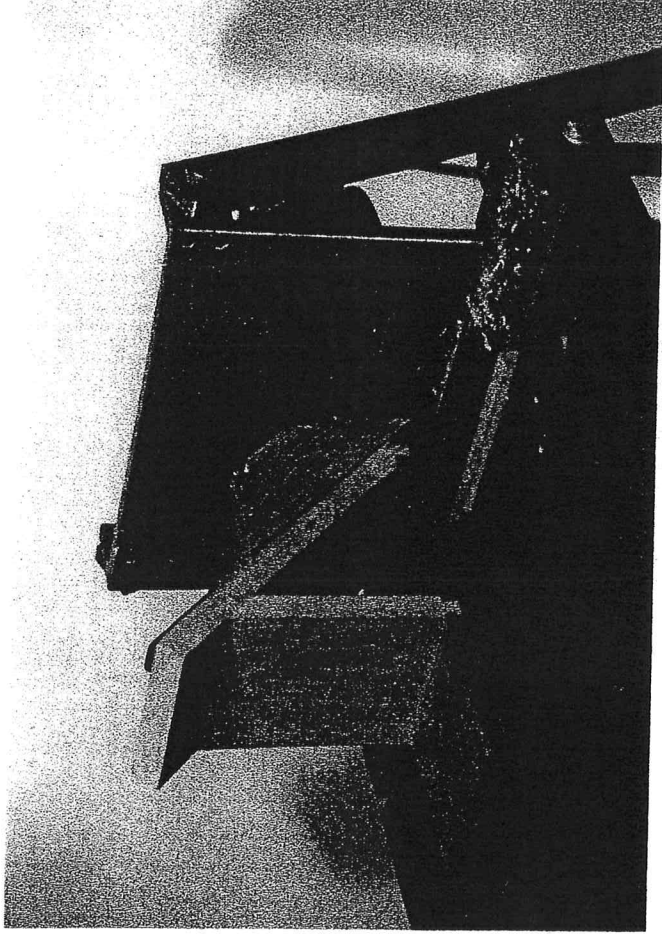

Fig. 26
4. Raise table 13 turns. Cut another end groove in A and B. (fig. 26)